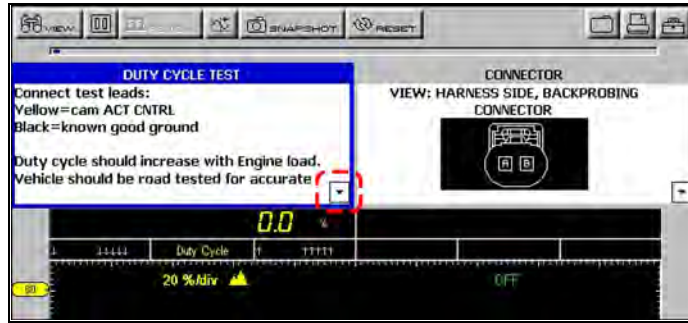

Figure 3-11 Thumb Pad instruction indicating more information
- Press the up ▲ or down ▼ arrow in the selected window (Figure 3-11) to display more information.